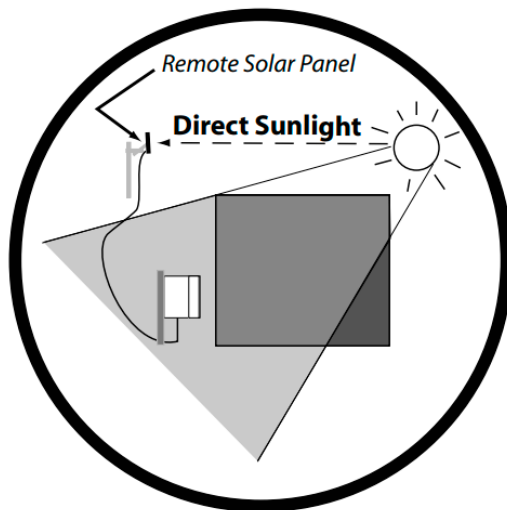

Figure 2.16 - Solar panel placement
- Avoid locations where shadows will significantly reduce the number of direct sunlight hours the solar panel will receive each day. It should not be mounted in areas shaded by structures, equipment, trees, or other objects (Figure 2.16).